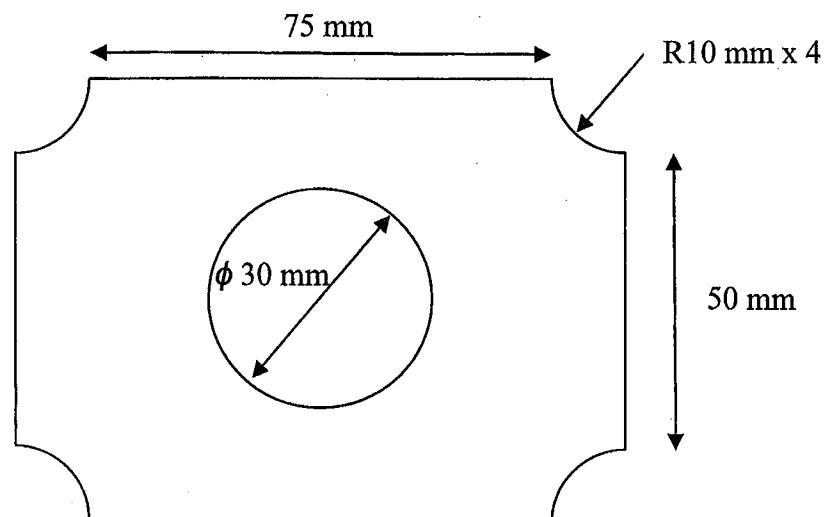

Fig.Q04
4.3. Write G-Code CNC program for the part shown in Fig.Q04. List of G-Codes and M-Codes are given at the end of the question paper. Thickness of the part is 8 mm. Give the material of the workpiece, diameters of the tools used, selected origin for the work coordinate system and other assumed data.